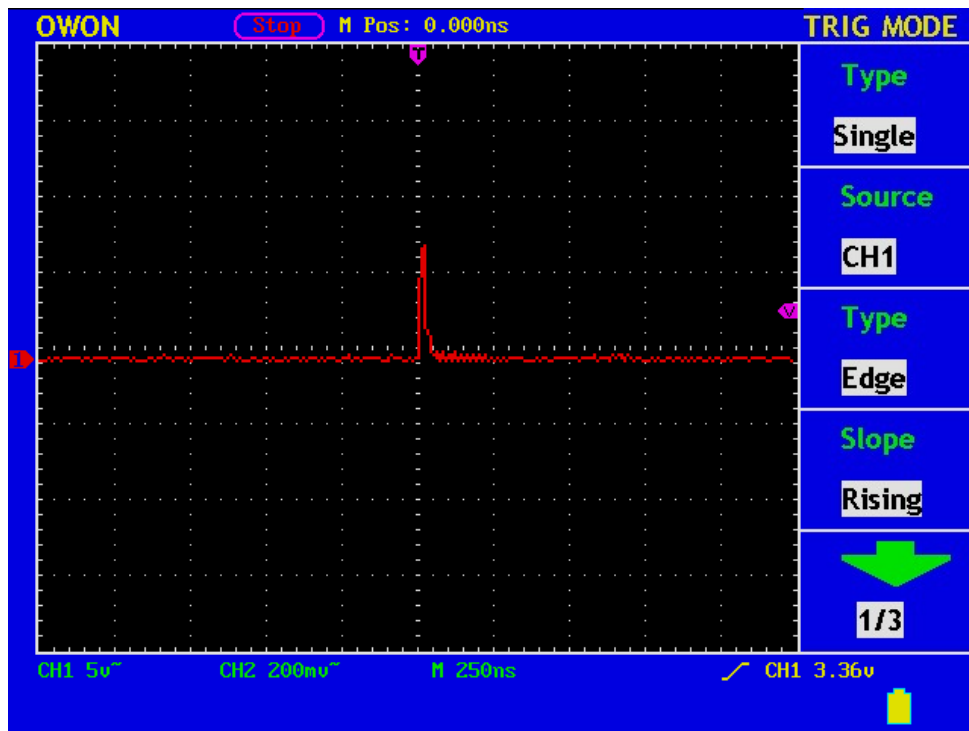

Fig.67 Capture the Single Signal
13. If the **Trigger State Indicator** at the top of the screen does not indicate **Ready**, push down the **RUN/STOP** button and start **Acquire**, waiting the emergence of the signal in conformity with the trigger conditions. If a signal reaches to the set trigger level, one sampling will be made and then displayed in the screen. With this function, any random occurrence can be captured easily. Taking the burst burr of larger amplitude for example, set the trigger level to the value just greater than the normal signal level, and then press the **RUN/STOP** button and wait. When there is a burr occurring, the instrument will trigger automatically and record the wave form generated during the period around the trigger time. With the **HORIZONTAL POSITION** knob in the horizontal control area in the panel rotated, you can change the horizontal position of the trigger position to obtain the negative delay, making an easy observation of the waveform before the burr occurs (see Fig.67).